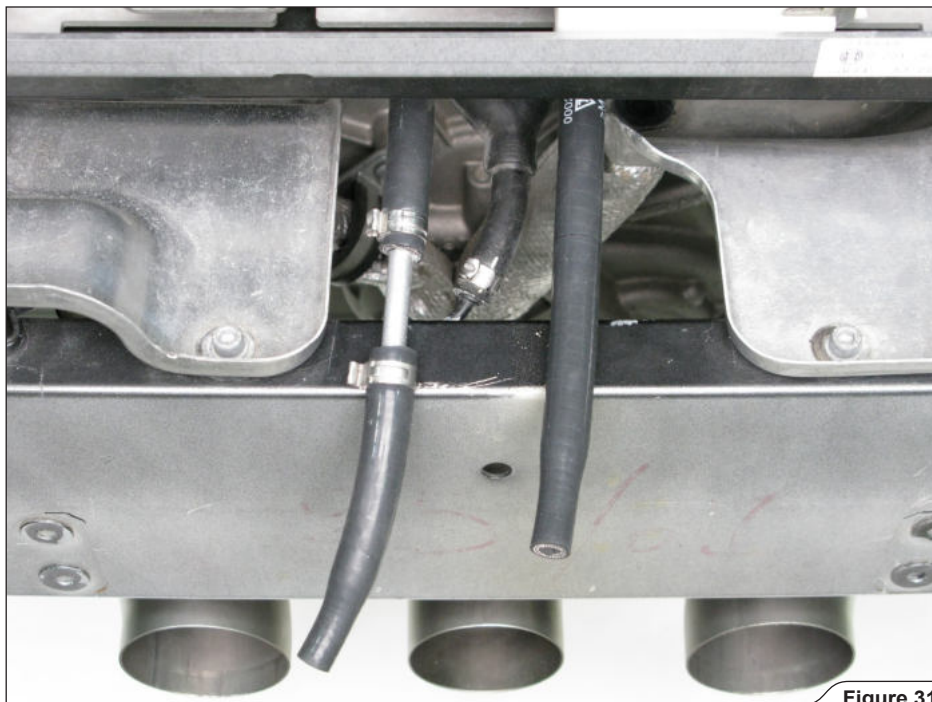

Figure 31
13. **For Slip-On and optional Link Pipes:** cut and prolong the right vacuum hose as shown, using aluminium tube and tape clamps from the installation kit (**Figure 31, 32**).